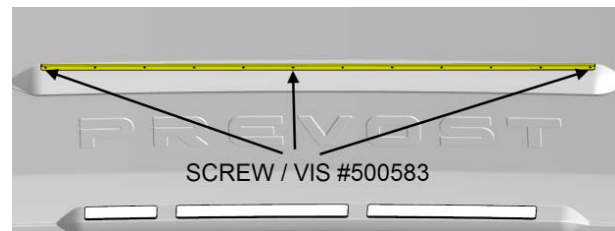

FIGURE 29
- Preinstall the drip edge using three (3) screw #6x1/2 (#500583), see FIGURE 29.